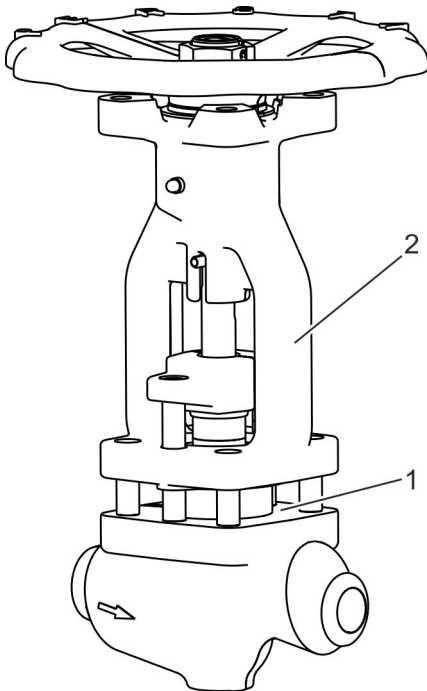

Fig. 31: Fitting on the bonnet
- 40.▶ Fit the bonnet (Fig. 31/2) onto the stud bolts on the body (Fig. 31/1).